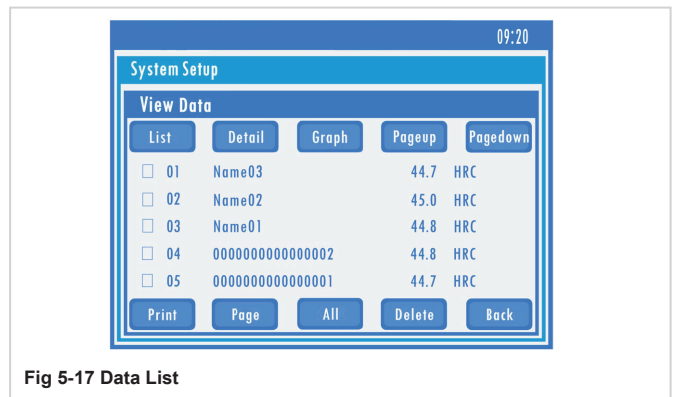

Fig 5-17 Data List
**1) List:** Each page shows 5 test results, the latest one is on top, see Fig5-17.